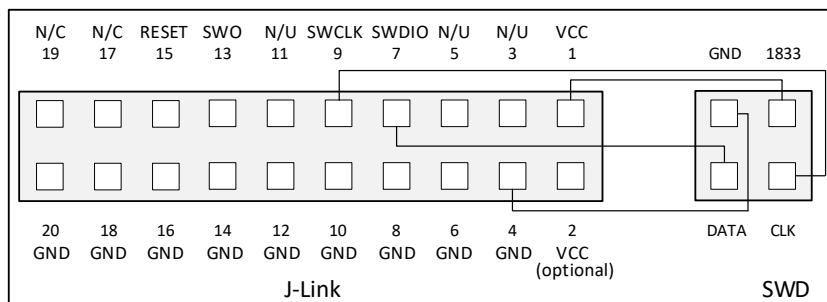

Figure 1-8 Wiring diagram of connecting J-Link to SWD
- (1) Connect J-Link to the SWD of RTL8721Dx.
- a) Refer to Figure 1-8 to connect SWCLK pin of J-Link to SWD CLK pin of RTL8721Dx, and SWDIO pin of J-Link to SWD DATA pin of RTL8721Dx.